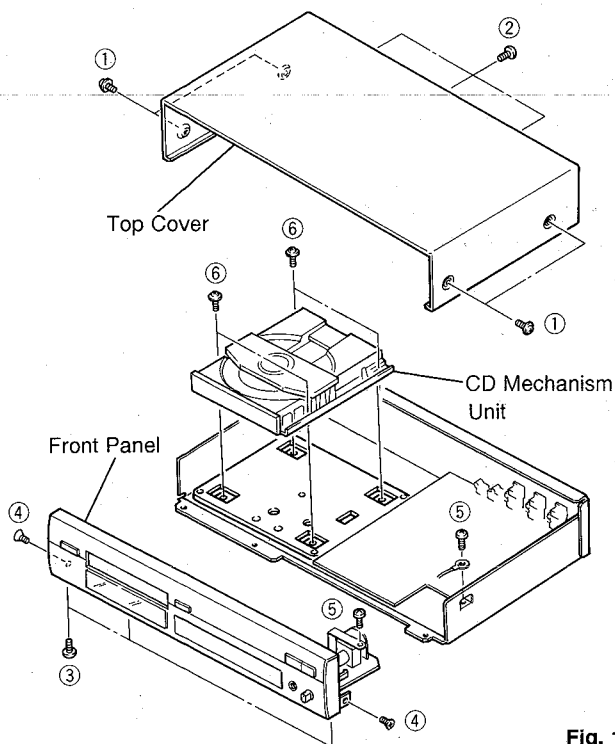

Fig. 1
- a. Remove 4 screws (①) and 3 screws (②) in Fig. 1.
- b. Remove 3 screws (③), 2 screws (④) and 2 screw (⑤) in Fig. 1.
- b. Remove 4 screws (⑥) in Fig. 1.